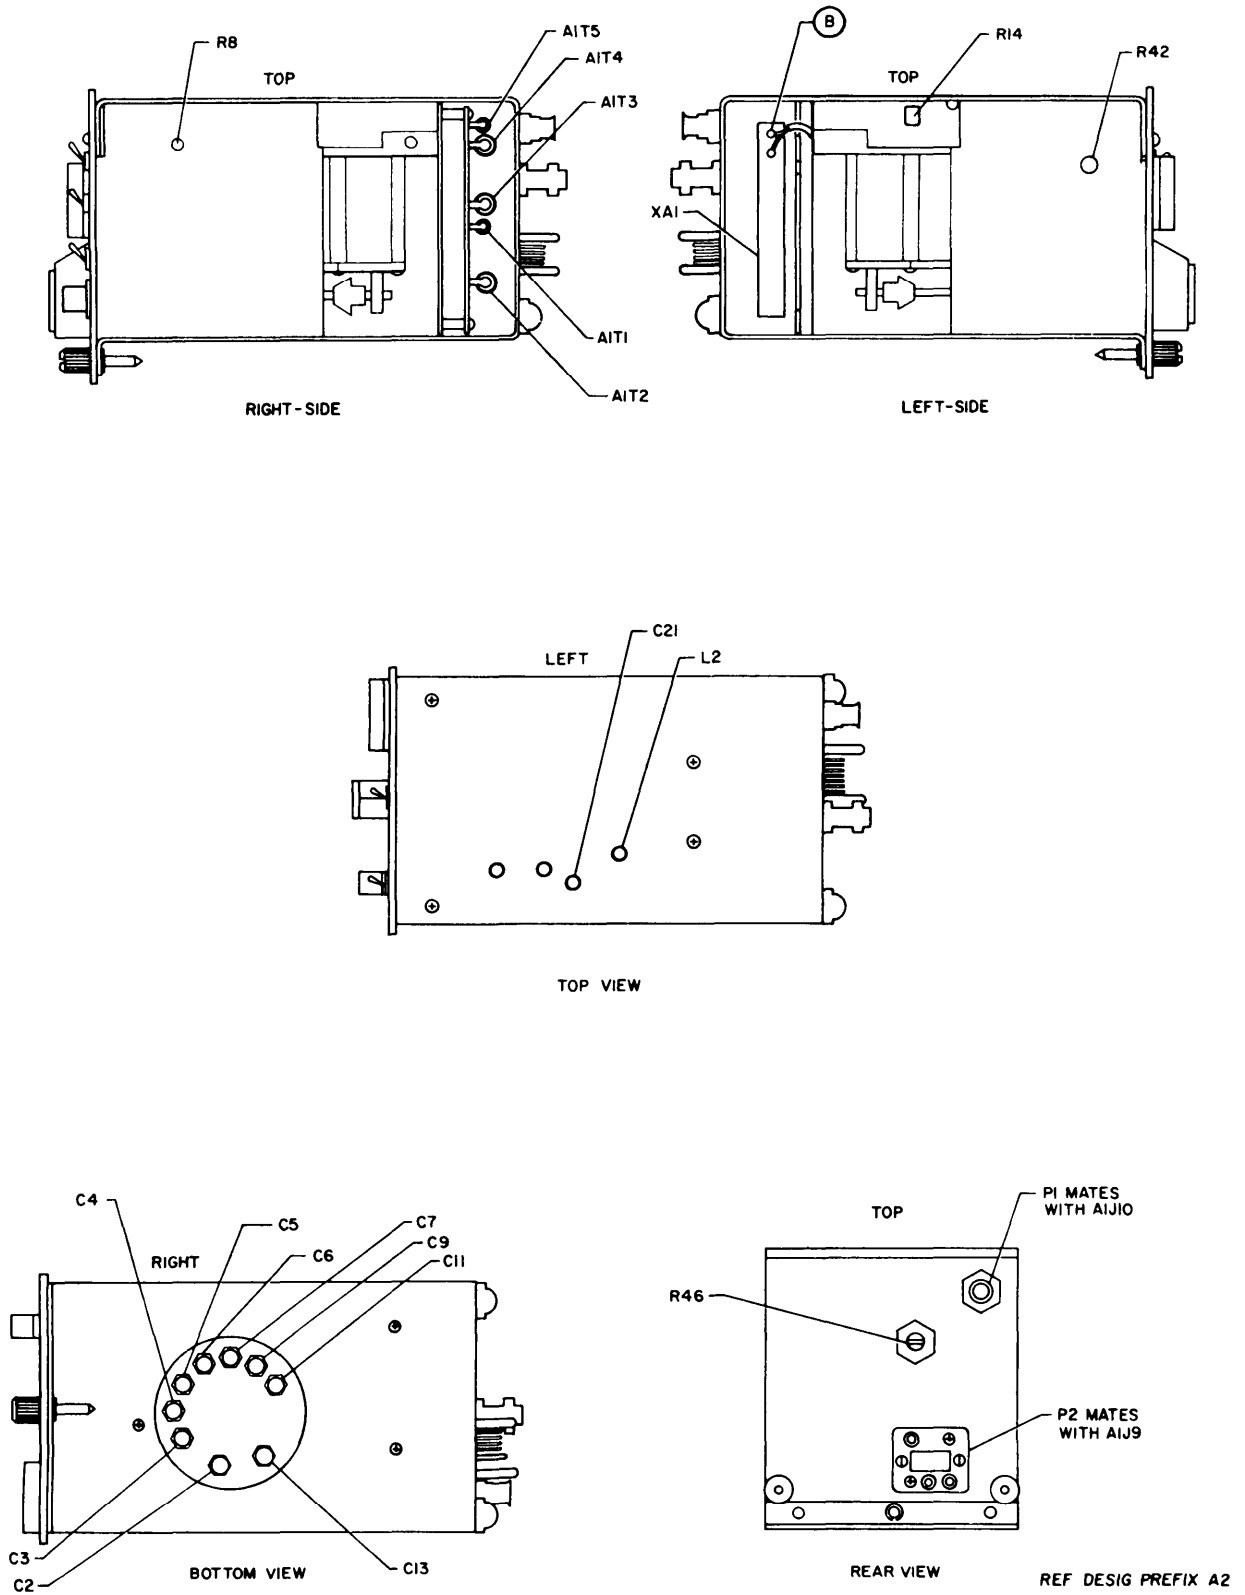

Figure 5-4. Electronic Frequency Converter A2, Location of Adjustments and Test Points
- (h) Adjust A2A1T5 (figure 5-4) for a 50-mc sine wave with a maximum amplitude.
(m) Adjust A2R46 (figure 5-4) for a 3-cm vertical wave-form-deflection.
(e) While observing waveform on oscilloscope, adjust band 500 adjustment capacitor A2C2 (figure 5-4), for a maximum 10-mc output. The waveform will be clipped.
(k) Adjust the balance adjustment resistor A2R14 (figure 5-4) for a minimum reading on the rf millivoltmeter.